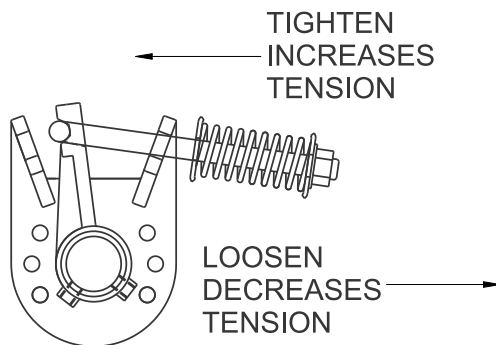
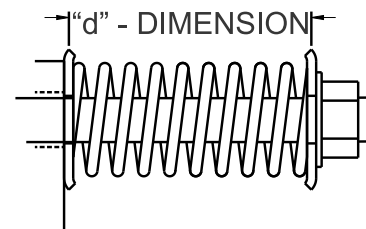

Fig. 2A
Fig. 2B
- 2.) FIG. 2A shows the direction the Force-1 tensioning nut needs to go to increase tension. FIG. 2B shows where the “d” dimension should be measured from.